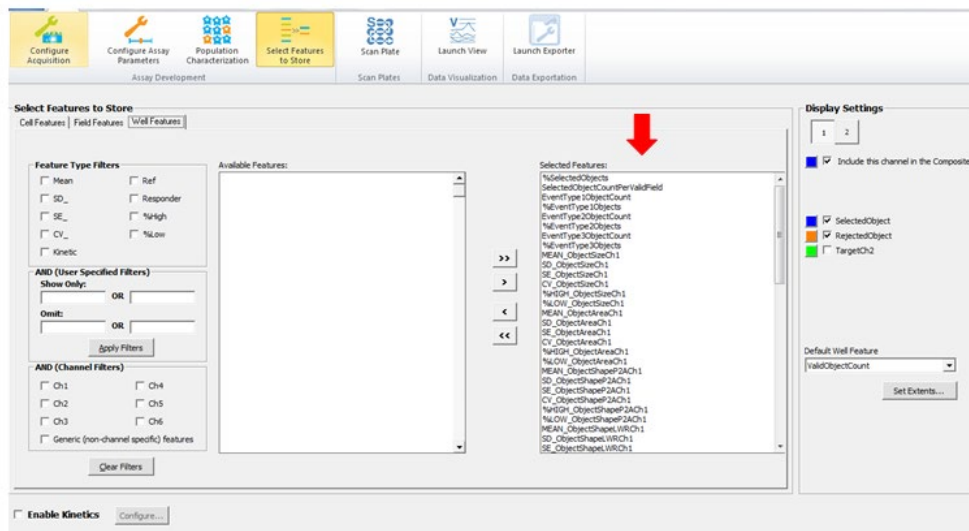

Figure 9. Select Features to Store tab. Arrow: Selected features.
11. Select the Configure Assay Parameters tab. Under Layout (**Figure 9 A**), select Configure groups to open the plate map with the already acquired image sets. Double-click on the fields from a selected well to load the image sets into the assay template (**Figure 9 B**). Assign positive and negative controls into two separate groups. To view the images from the positive and negative controls side by side, check group 1 and 2 in **Groups to Display in Layout**.
12. The settings in the PFF uptake protocol can be reused but will usually need some adjustments to compensate inter-experimental variance. Optimize the parameter settings for the image analysis by going through the **Protocol Optimization Task List (Figure 9 C)** from top to bottom. **Table 1** indicates the parameters to be optimized. During the optimization, toggle between the image sets (wells and fields) in both groups to verify the settings (**Figure 9 D**).
- To visualize the parameter values measured in an image, select **Data** and/or **Statistics** in **Layout (Figure 9 E)**.
- To modify the displayed image (in each channel), use the **Image Settings** block (Figure 9 F)